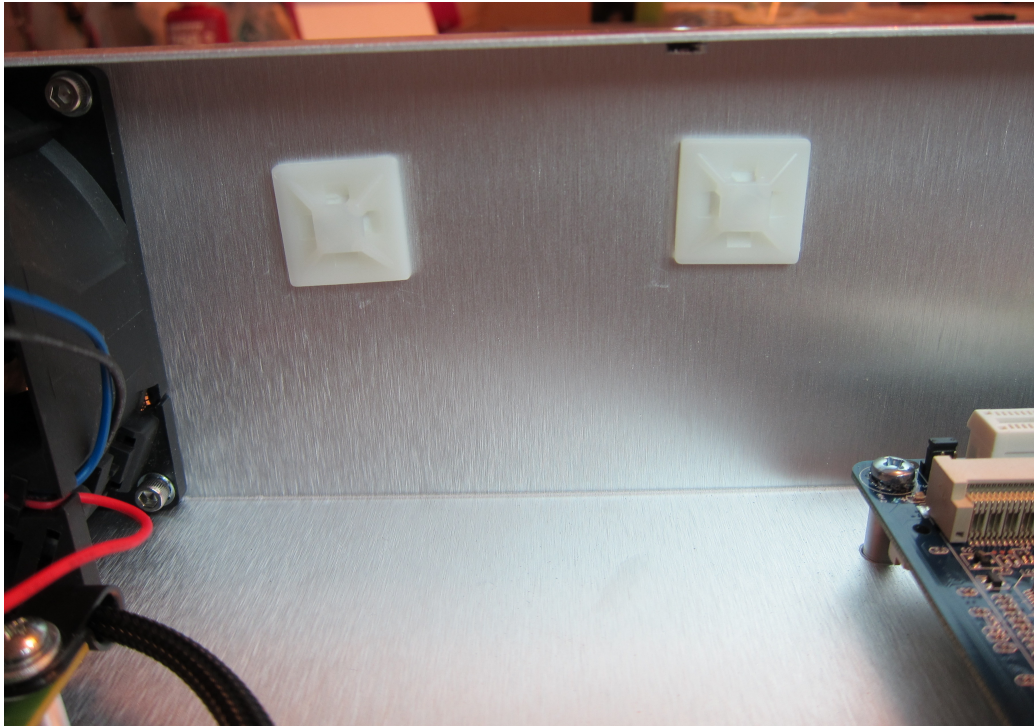

Figure 38: Tie mounts installed in the chassis.
5. Install two 0.75" square (561-N3588) adhesive-backed tie mounts as shown in Figure 38.